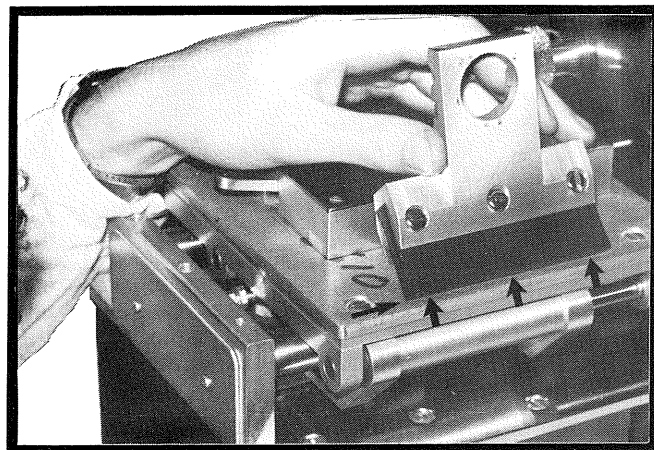

Fig 28
- B 33 Check flatness of squeegee blade in its holder by resting its edge along an absolutely flat surface, such as top of worktable. Rest it lightly, do not apply pressure (Fig 28).